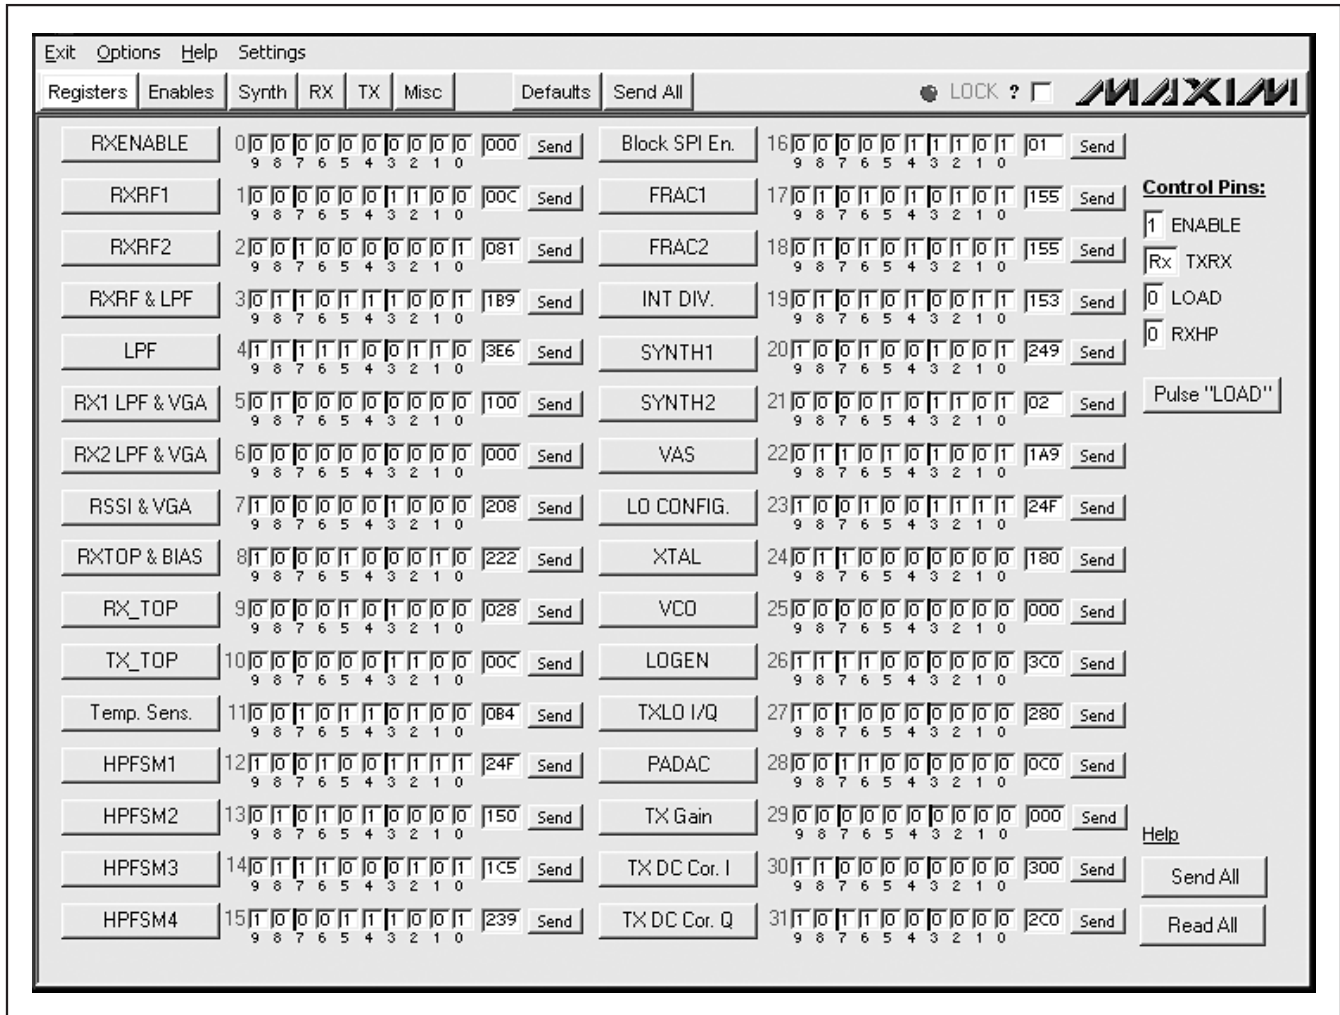

Figure 1. Receive Mode Register Setting
- 3) In the register panel of the software, enter the recommended register setting shown in Figure 1 for